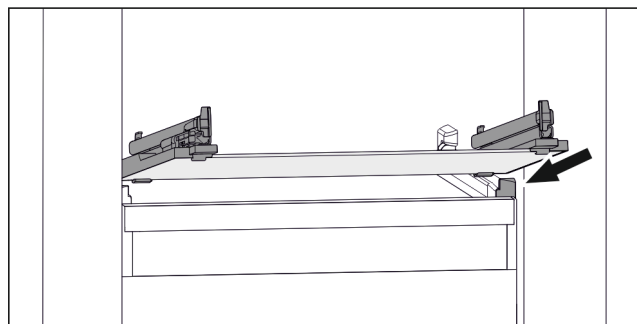

Fig. 134 Example illustration of glass shelf
- Position glass shelf at an angle behind the stoppers. (see Fig. 134)